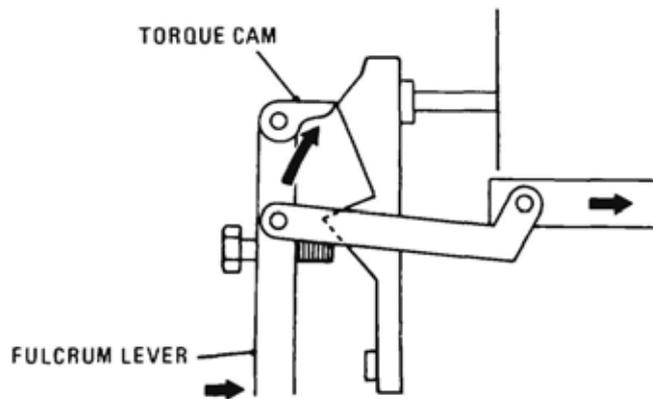

Figure 29 Increased Fuel Delivery
45. A Maxidyne Fuelling Concept is incorporated with the governor assembly; it provides increased engine torque in the lower rev/min ranges. To do this, a special type of maximum fuel stop plate is used. It is adjustable both horizontally and vertically. An extension or torque cam at the upper end of the fulcrum lever contacts the stop plate, and under load, follows the stop plate profile (Figure 29). As engine speed decreases, the sliding sleeve assembly moves forward, pushing the fulcrum lever towards increased fuel delivery. The torque cam is simultaneously moving over the stop plate. As engine speed continues to drop, the lower end of the fulcrum lever moves still further towards the pump. This movement causes the droop screw to contact the lower end of the stop plate (Figure 30). The purpose of the droop screw is to limit fuel delivery in order to match turbocharger output at low engine rev/min. As engine speed decreases still further, the lower end of the fulcrum lever moves towards the pump. It then pivots about the droop screw, thereby moving the top end of the fulcrum lever away from the pump, decreasing fuel.